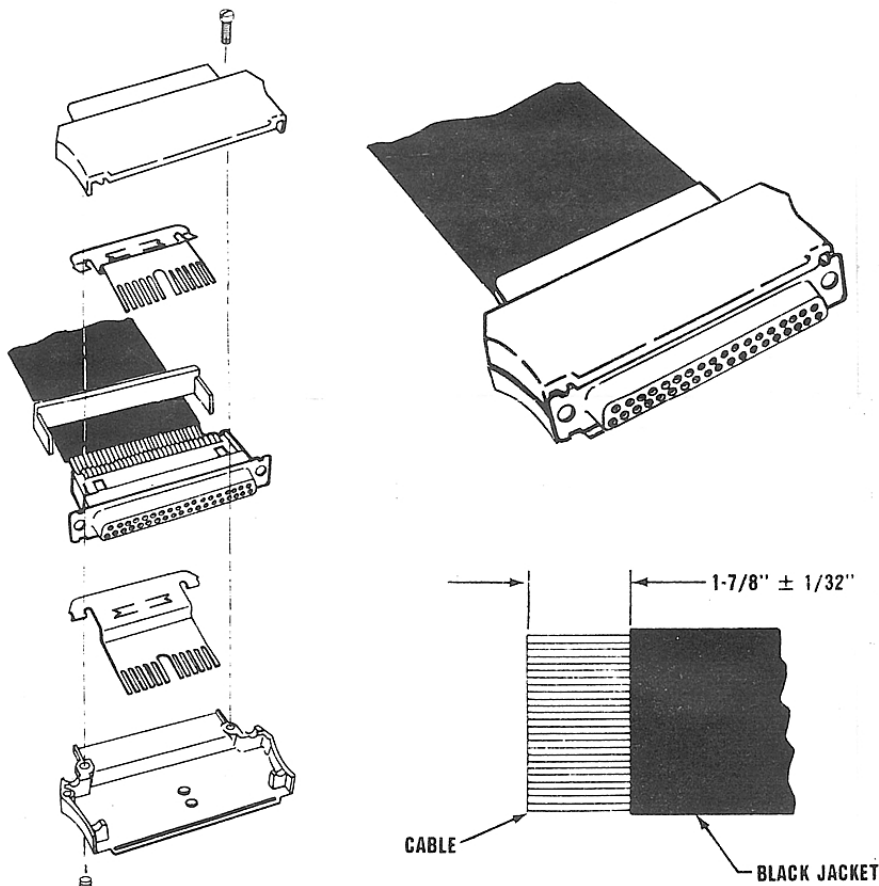

FIGURE 1
1. Strip back jacket and metallic shield per dimension in Figure 1.